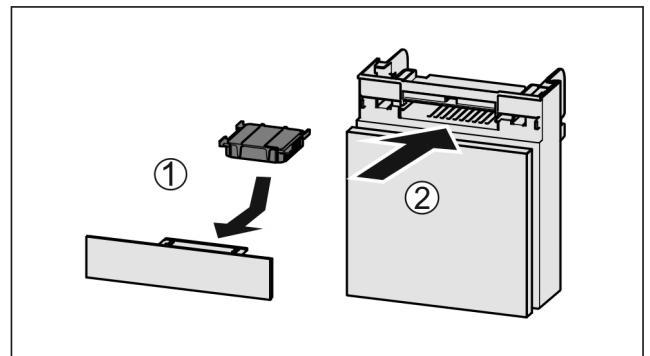

Fig. 39
- ▶ Insert the carbon filter as shown in the diagram Fig. 39 (1).
- ▶ Push the compartment in Fig. 39 (2).